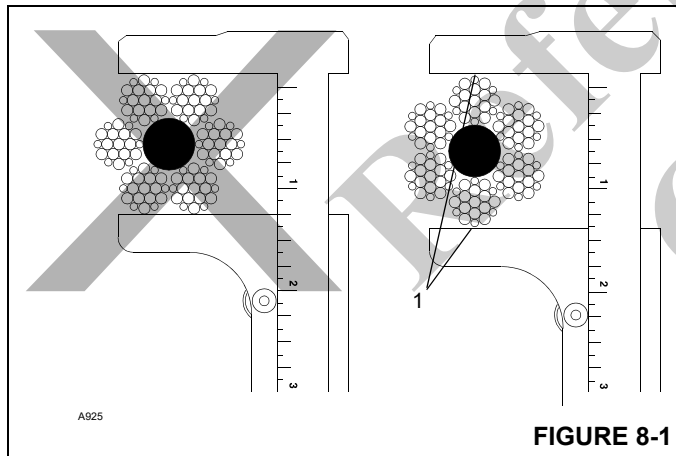

FIGURE 8-1
- Measure the rope's diameter across crowns of the strands when determining if rope has become damaged, refer to Figure 8-1.